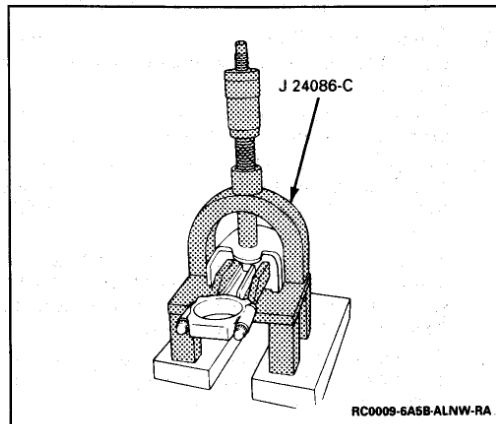

Figure 37 Installing Piston Pin
- Place piston (86) and connecting rod (83) into J 24086-B (Figure 37).
- Coat the piston pin (85) with clean engine oil.
- Press the piston pin (85) into place.